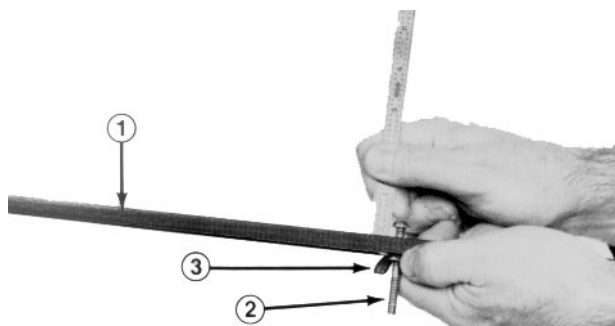

Fig. 7
3. Loosen the nut on the gauge bar (Fig. 7) and set the adjusting screw to desired height of cut. Distance between bottom of screw head and face of bar is height of cut.